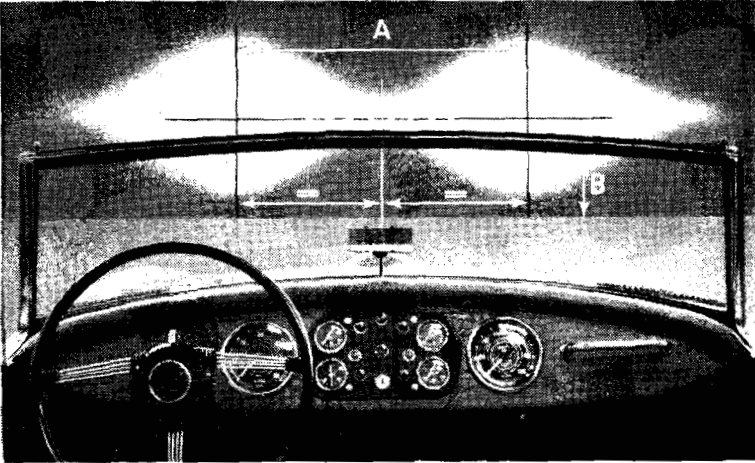

Fig. 21. Head lamps correctly aligned.
A point should be marked on the screen in line with the centre of the bonnet. Two crosses should be drawn on the "screen" 26" (661 mm.) above the ground level as indicated by (B), and 44" (1,118 mm.) apart (A), measured equally about the centre point (see Fig. 21). Switch on the head lamps and adjust the lamps, if necessary, until the centre of each circle of light coincides with the centre of its respective cross.